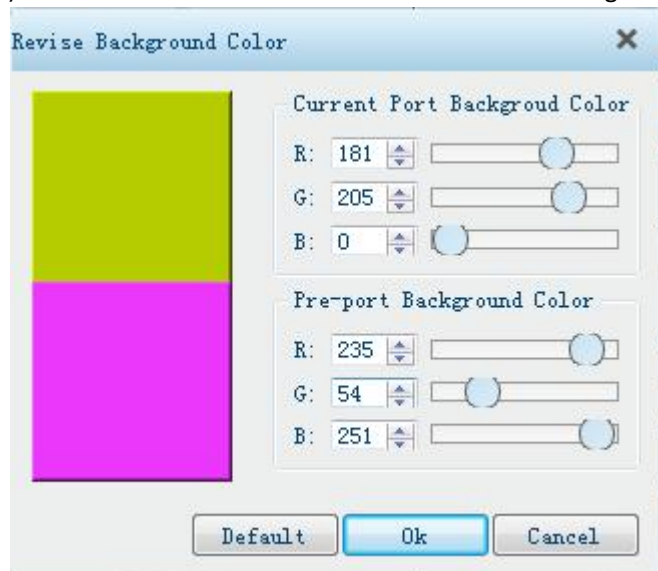

Figure 1-3-15 Background color setting
2) Activated the Pre-switch function--- we set the background color as figure 1-3-15